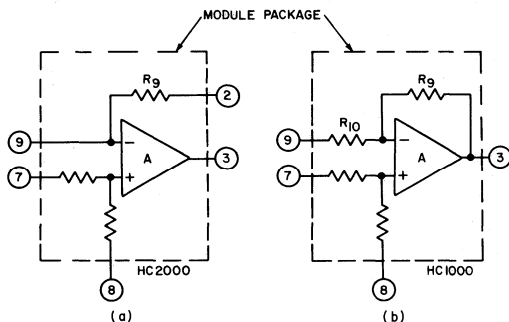

Fig. 3— Symbolic comparison of (a) the HC2000 and (b) the HC1000.
1. The internal feedback resistor R9 was brought out to terminal 2, and R10 was eliminated to permit the base of Q2 to be connected directly to terminal 9. These changes converted the HC1000 circuit from a fixed-voltage-feedback amplifier into the general-purpose HC2000 operational amplifier. Fig. 3 is a symbolic comparison of the two devices.